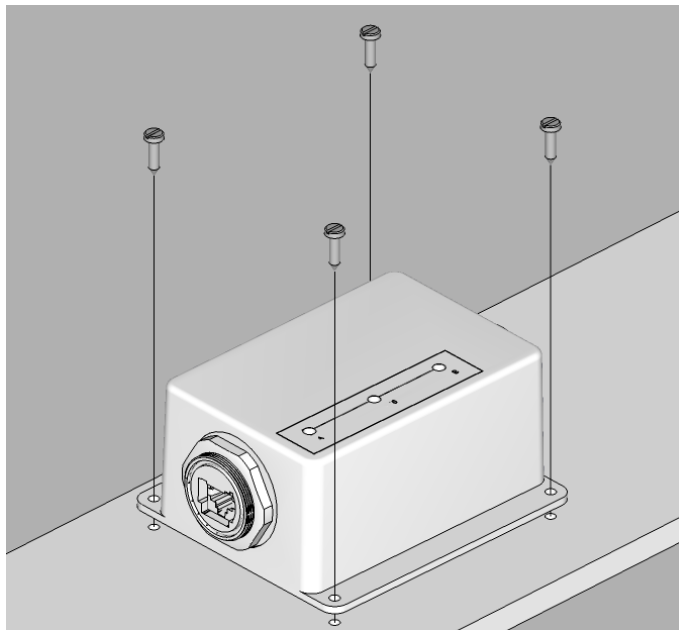

Figure 6 – Mounting the IPG100
Attach the IPG100 securely to the vessel using the included stainless steel mounting screws or other fasteners as shown in Figure 6 below. Do not use threadlocking compounds containing methacrylate ester, such as Loctite Red (271), as they will cause stress cracking of the plastic enclosure.